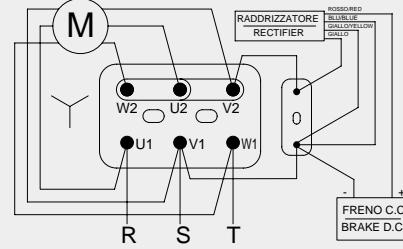

Fig. 14
**Collegamento stella (Y):** (fig. 14)
**Delta connection (Y):** (fig. 14)